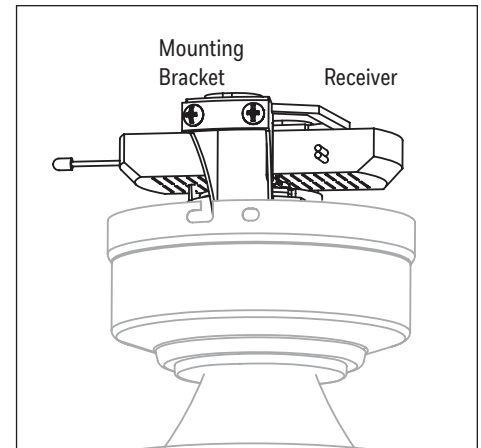

Figure 3.6
6. Insert the receiver in the mounting bracket with antenna end first and flat side facing up. **Note:** The receiver rests directly on the downrod (Figure 3.6).